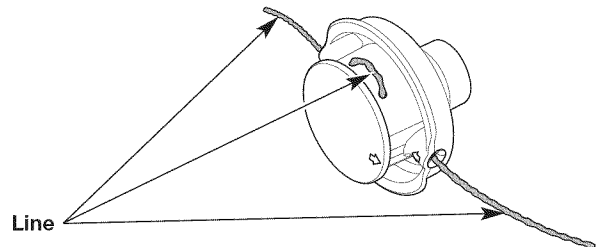

Fig. 18
4. Pull the ends of the line until the line is tight against the cutting head. Make sure the ends of the line are of equal length (Fig. 18).